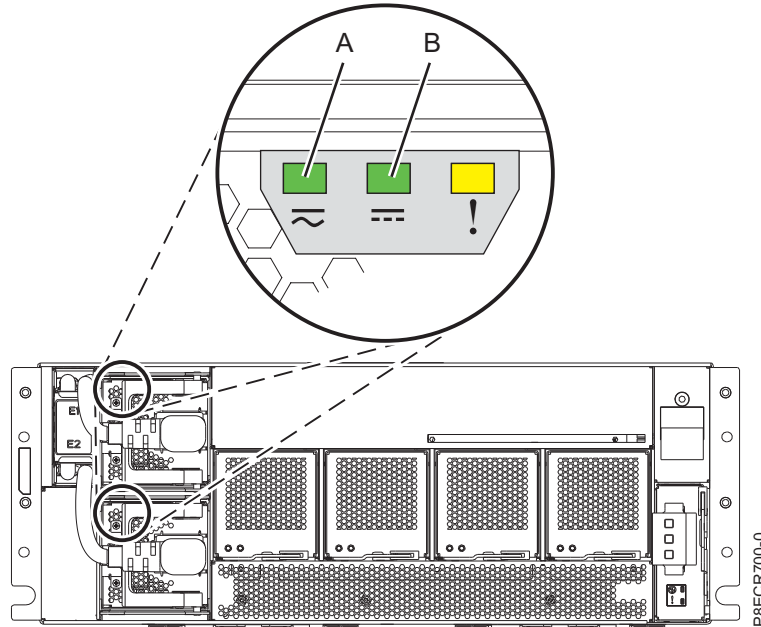

Figure 3. Power supply LEDs in the EMX0 PCIe3 expansion drawer
- The green input LED (left LED) and output LED (center LED) are lit solid. Refer to (A) and (B) in Figure 3.